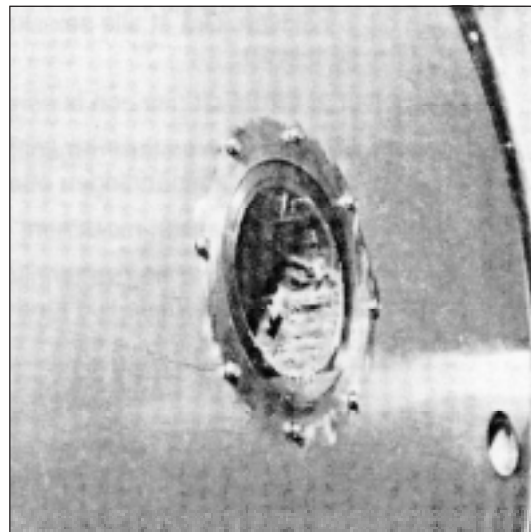

Figure 17. Installation of cover plate
36. Install the cover plate with the eight special screws, see figure 17. Use a "Gurisil-ring" around the screw heads for sealing. Clean the surrounding surfaces.